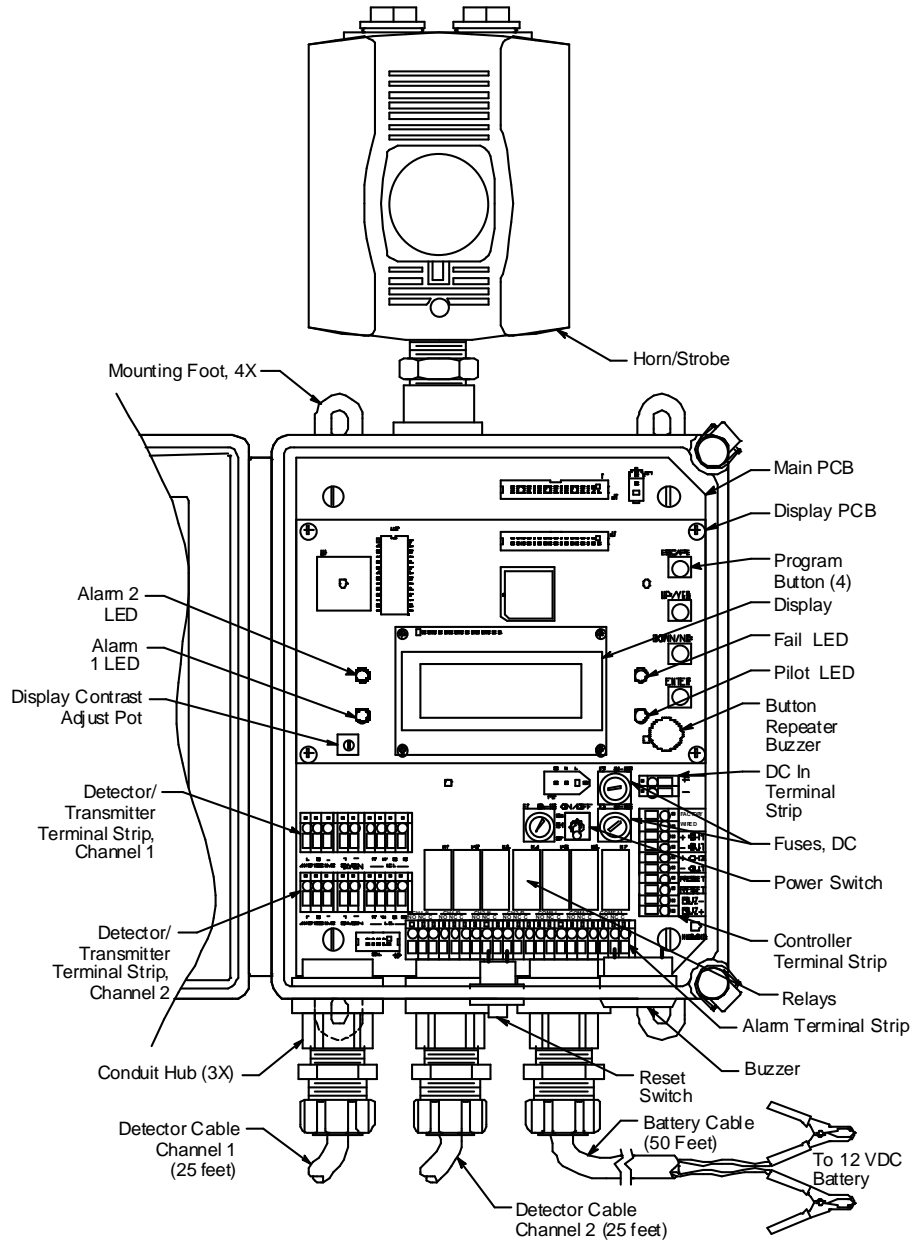

Figure 1. Beacon 200 Rig Monitor Component Location
- **Detector/Transmitter Terminal Strips.** Two detector/transmitter terminal strips are located near the bottom left corner of the main circuit board (see Figure 1). These two 9-point terminal strips facilitate wiring connections to the detectors. Only one detector head at a time may be wired per channel. The top terminal strip is for channel 1 and the bottom terminal strip is for channel 2. The LEL detector is factory wired to the top terminal strip and the H₂S detector is factory wired to the bottom terminal strip.
- **Alarm Terminal Strip.** The alarm terminal strip is located along the bottom edge of the main circuit board (see Figure 1). This 21-point terminal strips facilitates wiring connections to external alarm devices (horn, strobe, etc.). Terminals are provided for individual channels as well as common alarm relay contacts. The horn/strobe is factory wired to this terminal strip.
- **Controller Terminal Strip.** The 10-point controller terminal strip is near the lower right edge of the main circuit board (see Figure 1). The controller terminal strip facilitates various internal and external wiring connections. Table 3 lists the function of each terminal.
- **DC In Terminal Strip.** The DC in terminal strip is a 2-point terminal strip located above the controller terminal strip (see Figure 1). It facilitates wiring from the 12 VDC battery. The 50 foot battery cable is factory wired to this terminal strip. Table 4 lists the function of each terminal.
- **Channel relays.** The four channel relays are above the alarm terminal strip (see Figure 1). These relays are dedicated to specific channels and alarm levels.
- **Common relays.** The three common relays, alarm 1, alarm 2, and fail, are to the left of the controller terminal strip (see Figure 1). These relays are common for both channels.
The power switch is located above the relays and to the left of the DC fuses (see Figure 1). The power switch turns the incoming DC power source on and off at the Rig Monitor. When the switch is up, the power switch is on.